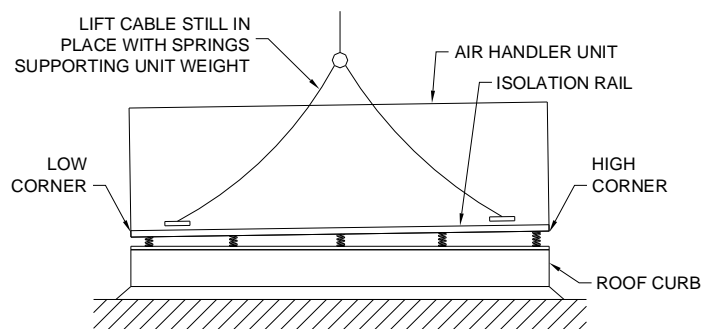
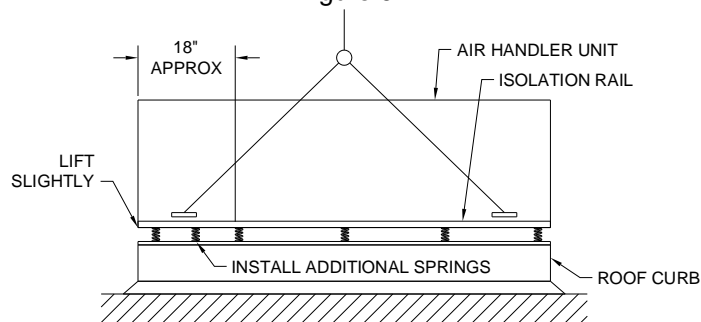

Figure 9.1
Figure 9.2
3. If multiple units are being installed, check to see that the tag numbers on all (4) rails agree and are consistent with the unit being supported (is RTU-1 on the isolation rail meant for RTU-1).
5. If unit leveling is required: Several loose springs are shipped with each KSCR for this purpose. The springs should be installed within 18" of a corner when they are required. Low and high corners should be identified while the KSCR springs support the unit weight (see figure 9.1). The unit should then be lifted slightly and additional springs should be located in the low corners and twisted into the grooves on the lower rail assembly (see figure 9.2). The unit can then be lowered into place again. Should further leveling be required, remove springs from the high corners and relocate them to the low corners (do not allow the gap between springs to exceed 24"). Repeat the process as necessary. Caution should be used not to install too many springs, as the entire system may become unstable if it sits too high.